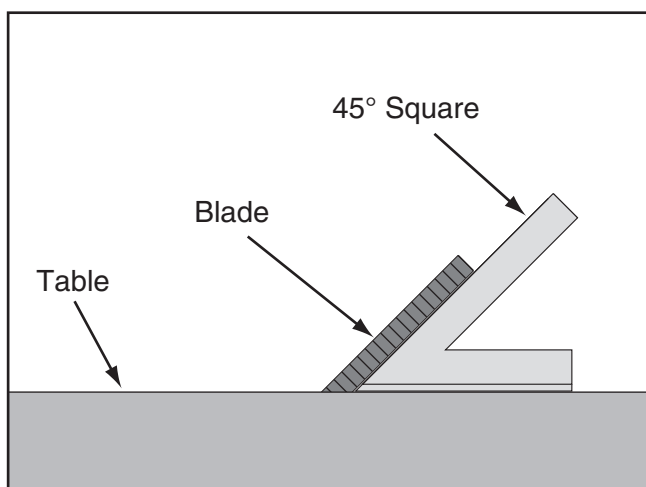

Figure 109. Checking blade at 45°.
3. Place a 45° square against the table and blade so it contacts the blade evenly from bottom to top, as shown in **Figure 109**. Make sure a blade tooth does not obstruct the placement of the square.